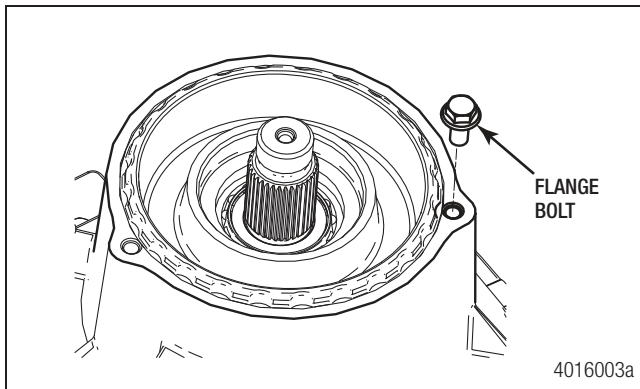

Figure 7.45
5. Apply Loctite 242 to the flange bolt threads and install the bolt to secure the bearing cage in place. Figure 7.45.